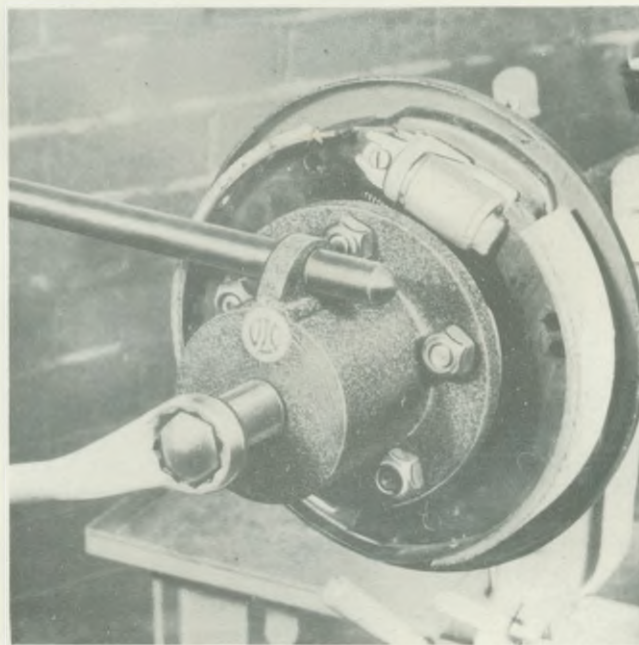

Fig. 3. Extraction of rear hub—Tool No. 20S-86
3. Remove rear hub with extractor as shown in Fig. 3. Extraction of the rear hub provides access to the outer oil seal when it is necessary to replace this.